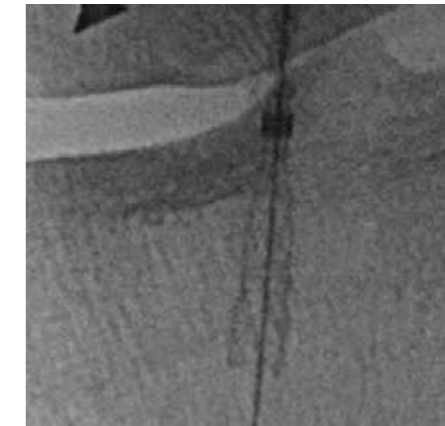

Figure 5: Precisely placing the stent under Hi-Def mode allowed the operator to ensure the zone of dissection is covered along the popliteal artery.
In another peripheral arterial intervention case, Dr. Bertolet successfully resolved complication with Hi-Def. “This is another leg case that I did that ended up with an occlusive dissection of the popliteal blood vessel and some reconstituted flow very distally. In Hi-Def mode, the end of the tape can be seen. I was able to see where exactly to place my Supera™ stent and deploy it under Hi-Def. Precisely placing this stent allowed me to ensure that I covered the zone of dissection and provided the appropriate therapy for the patient.” (Figure 5)
"We have also seen some excellent use of Hi-Def in peripheral vasculature. Here, Hi-Def showed that the anterior tibial stent was fractured, but the stenosis was in the proximal edge. This case demonstrates that in you can use all of your other functions, such as digital subtraction and roadmap etc. while in the Hi-Def mode. (Figure 5)"
Figure 5: The 3" x 3" Hi-Def mode (B) showing complete fracture and avulsion of one of the previously placed stents which was not visible under the 12" x 12" FOV FPD mode (A). The Hi-Def mode was subsequently used to accurately size and precisely deploy a stent across the stenosis within the popliteal artery (C, D).